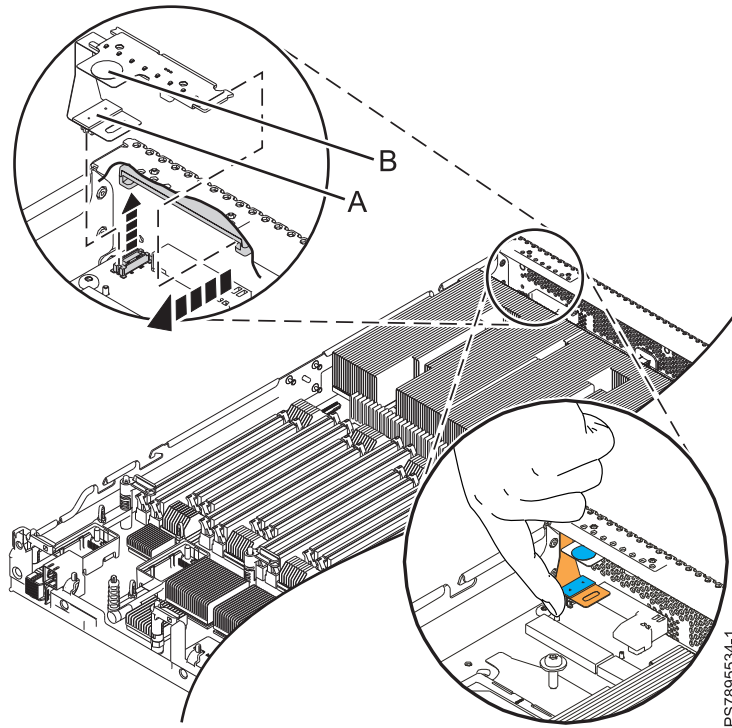

Figure 29. Removing the light path diagnostics panel
To remove the light path diagnostics panel, which is shown in Figure 29, complete the following steps.
6. Disconnect the cable **(A)** from the system board. For best maneuverability, orient yourself in front of the compute node. Use your index finger to reach under the cable connection and pull it up, as shown in Figure 29 on page 65.